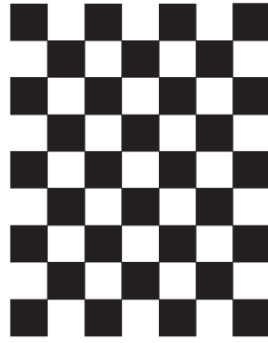

Figure 6 25mm\*25mm Checherboard
- ✓ Printing out a checkerboard in the size of 25mm\*25mm, then stick it on a hardboard flat surface, which act as calibration object. Figure 6 is the checherboard.